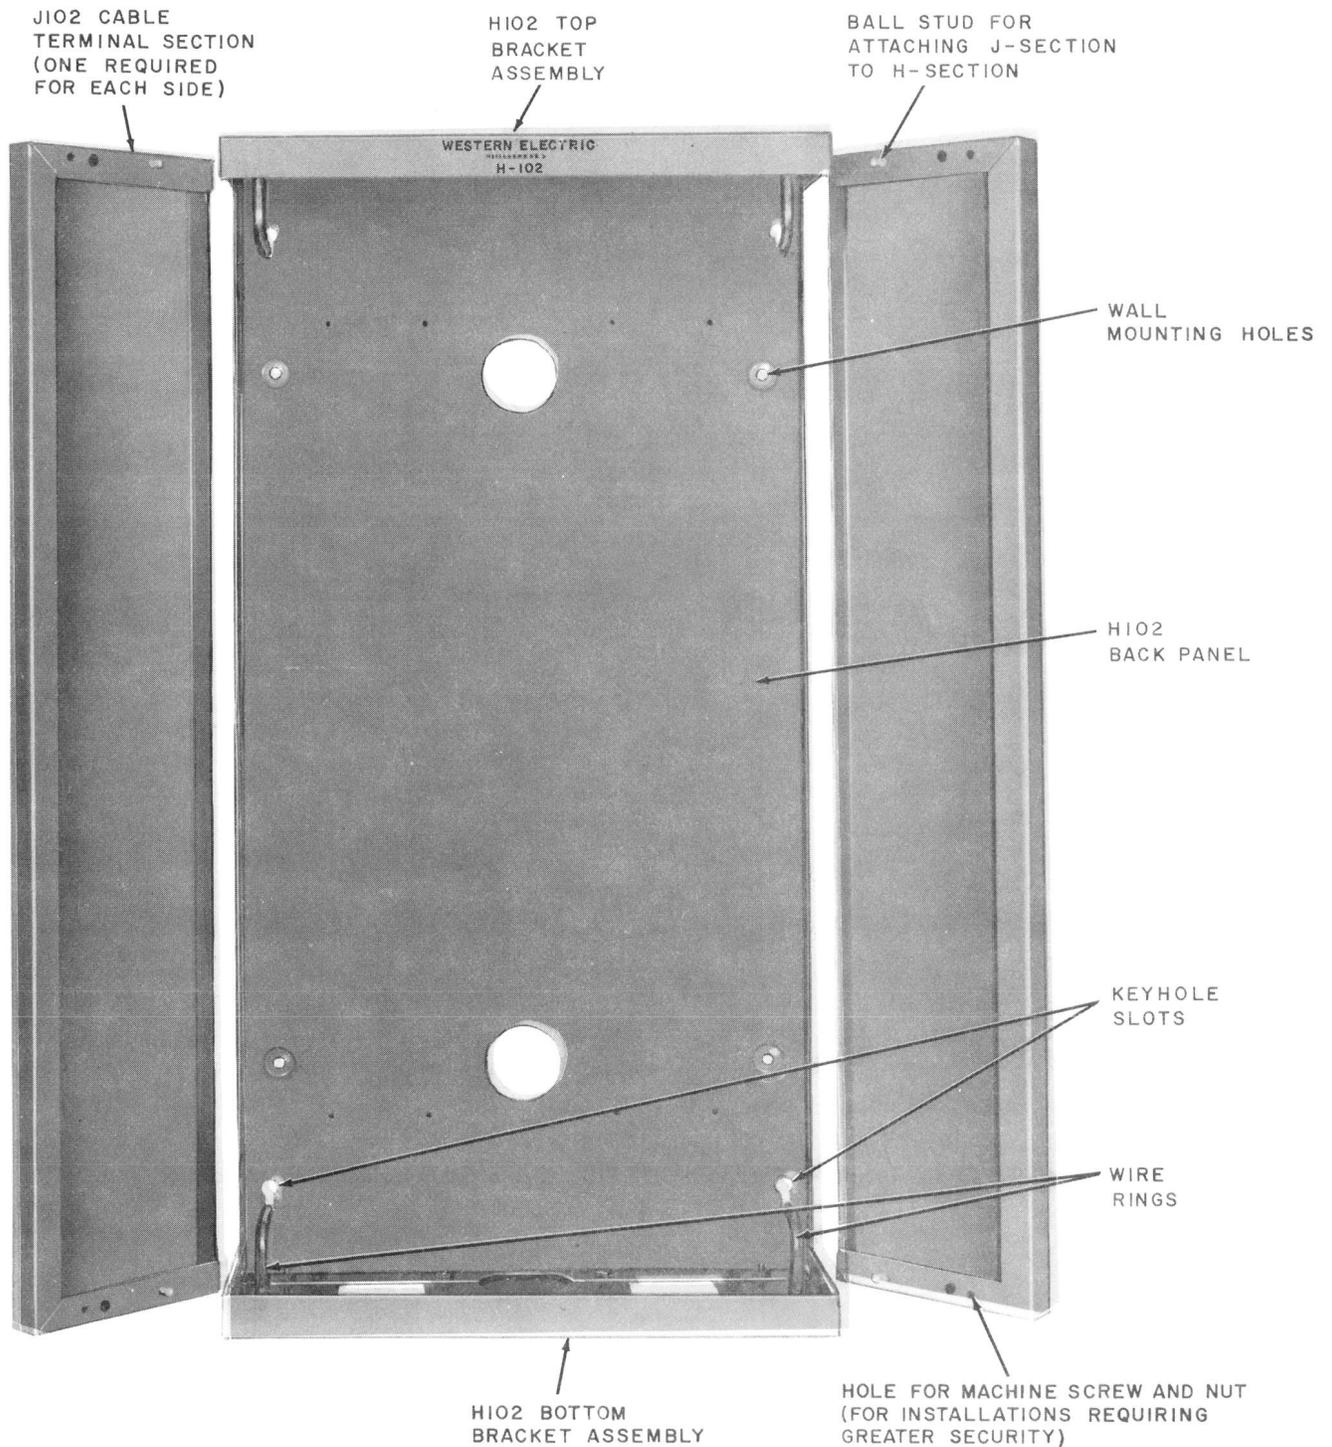

Fig. 4—H102 Cable Terminal Section With J102 Cable Terminal Section Installed (Lift-Out Type Door Omitted for Clarity)
2.07 The H-type cable terminal sections shown in Fig. 4, 5, and 6 are available in three sizes. The dimensions of the sections are listed in
security is required, the J section may be fastened to the mating H-section using machine screws and nuts provided. The J-type cable terminal sections installed on their corresponding H-type cable terminal sections are shown in Fig. 4, 5, and 6.